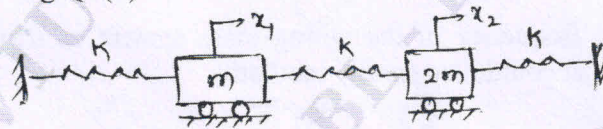

Fig.Q7(b) (10 Marks)
- b. Use Lagranges equation to find the natural frequency and amplitude ratio of the system as shown in Fig.Q7(b).